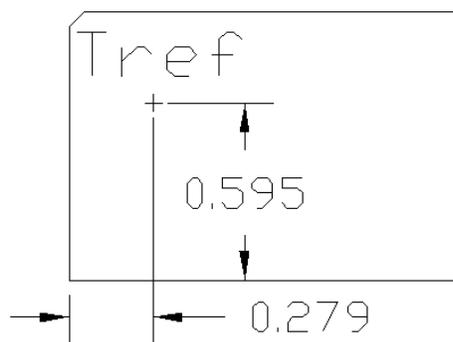

Figure 13. T_{ref} Temperature Measurement Location for Module with Heatplate.
To provide protection under certain fault conditions, the unit is equipped with a thermal shutdown circuit. The unit will shutdown if the thermal reference point T_{ref} (Figure 13), exceeds $121^{\circ}C$ (typical), but the thermal shutdown is not intended as a guarantee that the unit will survive temperatures beyond its rating. The module can be restarted by cycling the dc input power for at least one second or by toggling the remote on/off signal for at least one second. If the auto-restart option (4) is ordered, the module will automatically restart upon cool-down to a safe temperature.
The thermal reference point, T_{ref} used in the specifications is shown in Figure 13. For reliable operation this temperature should not exceed 103°C.